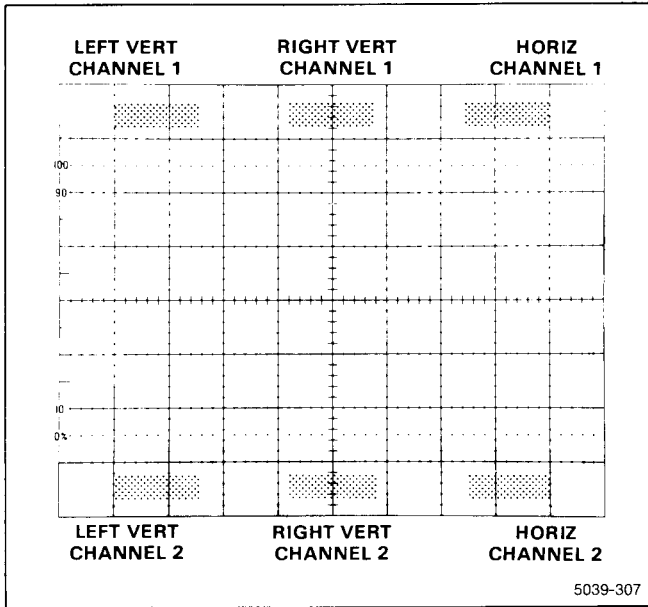

Figure 3-12. Location of readout display on the crt identifying the originating plug-in and channel.
Frame—A display of all words for a given operating mode and plug-in combination. Up to eight words can be displayed in one frame. Figure 3-12 shows the position of each word in a complete frame.
Display Format. Up to eight words of readout information can be displayed on the crt. The position of each word is fixed and is directly related to the plug-in unit where it originated. Figure 3-12 shows the area of the graticule where the readout from each plug-in unit is displayed. Notice that Channel 1 of each plug-in unit is displayed in the top division of the crt and Channel 2 is displayed directly below in the bottom division. Figure 3-13 shows a typical display where only Channel 2 of the Right Vertical unit is selected for display.
The Format Generator stage provides the output signals to the vertical and horizontal deflection systems of the instrument to produce the character display. The binary Channel Address Code from the Channel Counter stage is connected to this stage, so that the display from each channel is positioned to the area of the crt associated with the plug-in and channel originating the word (see Fig. 3-12). The positioning current or decimal point location current generated by the Decimal Point Logic and Character Position Counter stage is added to the Horizontal (X) signal at the input to the Format Generator stage to provide horizontal positioning of the characters within each word. The X- and Y-Readout signals are connected to the Horizontal Amplifier and Vertical Amplifier through the X- and Y-Buffer stages.